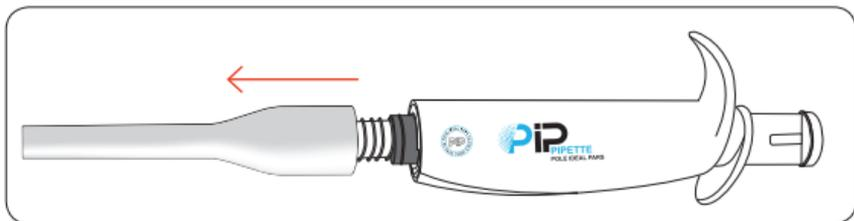
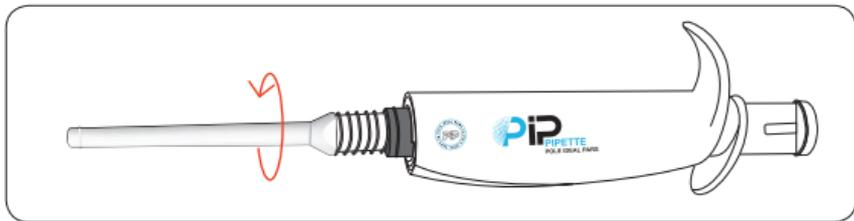

Figure 18. Remove the tip ejector
Figure 19. Unscrew the shaft
1. Only disassemble the tip ejector and shaft carefully. (figure 18, figure 19)